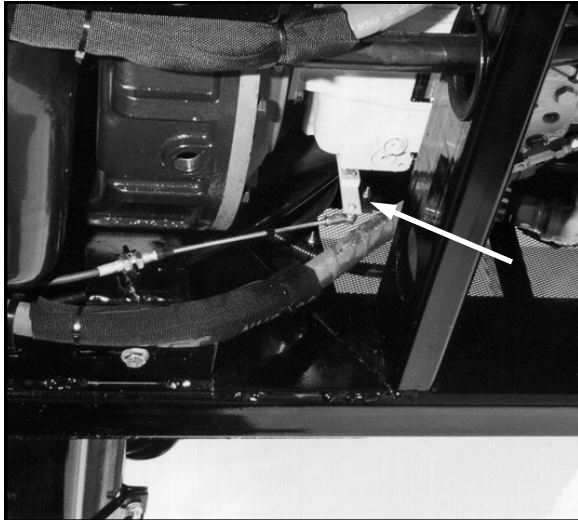

FIG 7.46
**NEUTRAL SETTING** - When the hydrostatic lever is in the neutral position, the machine should not be moving in either direction. If it does, the neutral setting of the lever (fig. 7.46) on the hydrostatic pump needs to be adjusted.